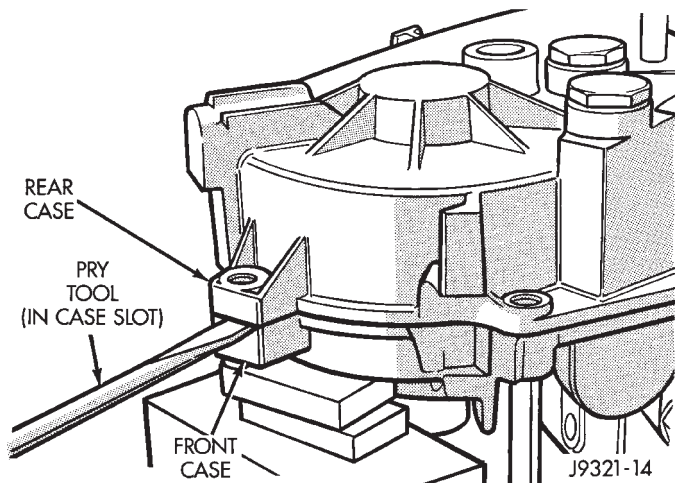

Fig. 19 Loosening Rear Case
- (3) Loosen rear case with flat blade screwdriver to break sealer bead. Insert pry tool blade only into notches provided at each end of case (Fig. 19).
- (4) Remove rear case from front case.